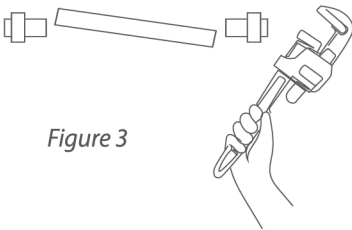

Figure 3
Step 2: Measure the system and cut the pipe (Figure 3)